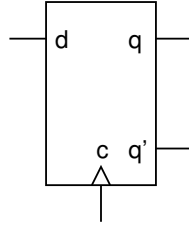

Figure 1: D flip-flop.
- 7. **(3 pts.)** Consider the rising edge triggered D flip-flop shown in Figure 1. At, and only at, rising clock edges, this sequential element transfers the input ( $d$ ) value to its output ( $q$ ). At other times,  $q$  does not change. An inverted output  $q'$  is also commonly provided. Due to internal delays resulting from